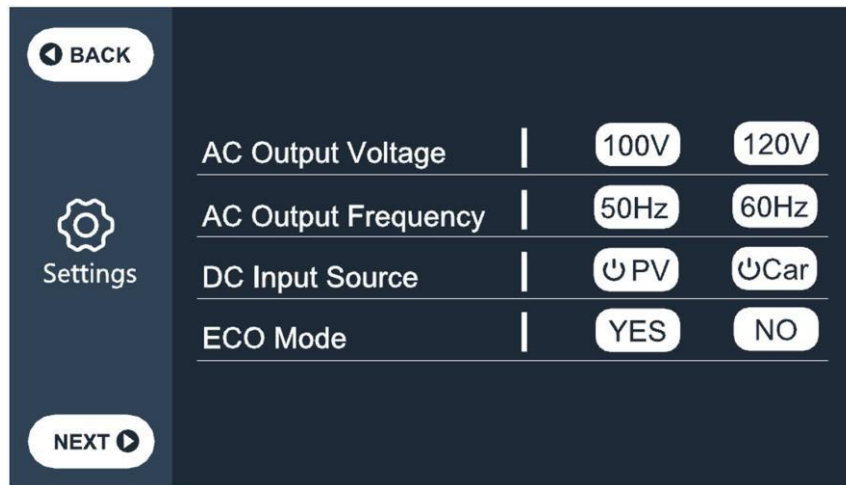

Figure2)
(2) Click the settings button in the main interface (Figure 2) to enter the setting interface as follows (Figure 3) :
(3) Charging mode 3: From the car lighter port
- Enter the setting interface as shown in (Figure2) through the display screen to set DC input source to car mode; The product can be charged with 8.2A maximum current.
(4) Charging Mode 4: From a generator (gasoline, propane or diesel)
(5) Charging mode 5: from lead acid battery
- Enter the setting interface as shown in (Figure 2) through the display screen to set DC input source to “car mode” .The product can be used for car charging mode, with the maximum current of 8.2A. The product has the function of anti over discharge for lead-acid battery.